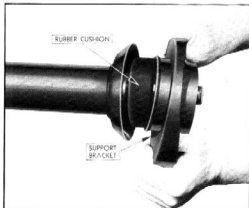

Fig. 36—Installing Bearing Support Bracket
4. Coat the outside surface of the rubber cushion lightly with soft soap and slide the support bracket over the rubber cushion as in Fig. 36.